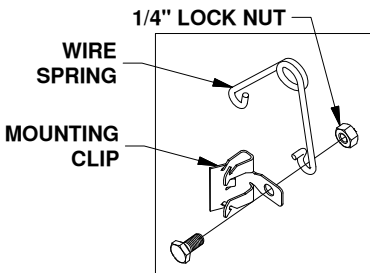
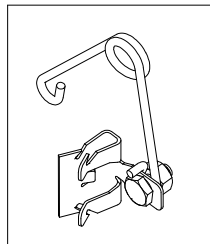

Figure E1:
Figure E2:
- Assemble kit.** Locate the 1/4" cap screw and nut, along with the wire torsion spring and mounting clip. Pass the 1/4" cap screw through the mounting clip and the wire spring, as shown in Figure E1. Thread the 1/4" lock nut onto the 1/4" cap screw. Tighten the lock nut just enough that the spring will stay in place but will still be able to rotate around the bolt if needed, see Figure E2.